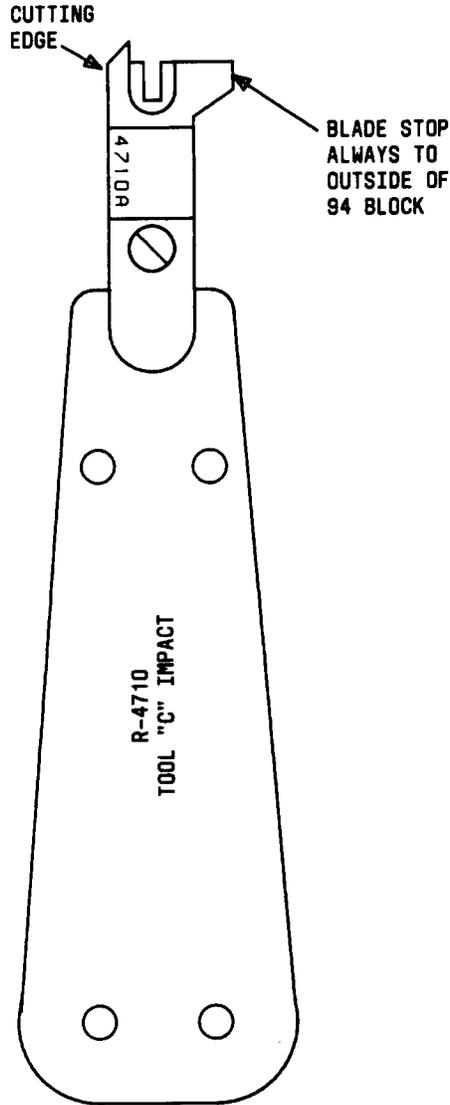

Fig. 1—R-4710 "C" Impact Tool With 4710A Blade
2.02 The R-4710 "C" impact tool (Fig. 1) has an adjustable impact force of 18 to 21 pounds. The available blades are 4710 and 4710A. The 4710 blade